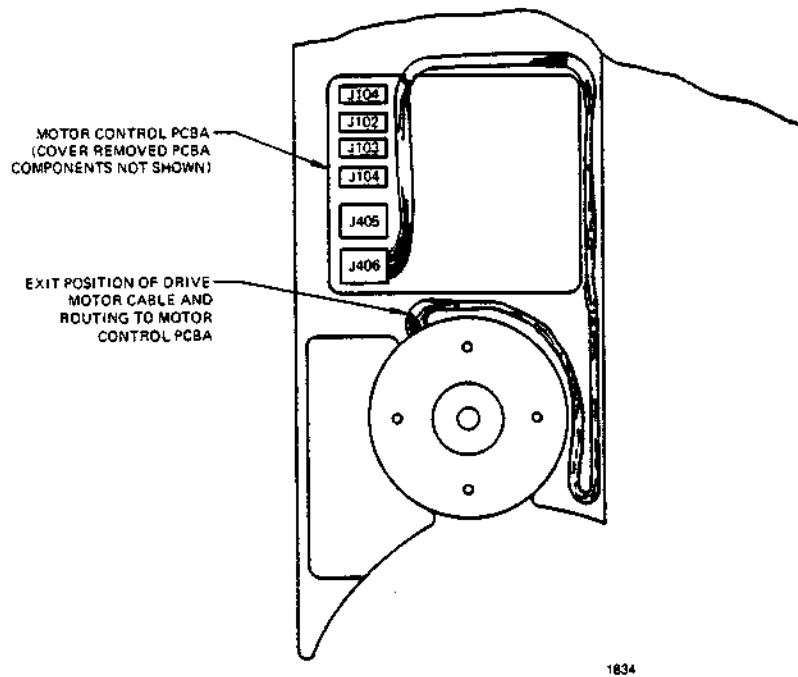
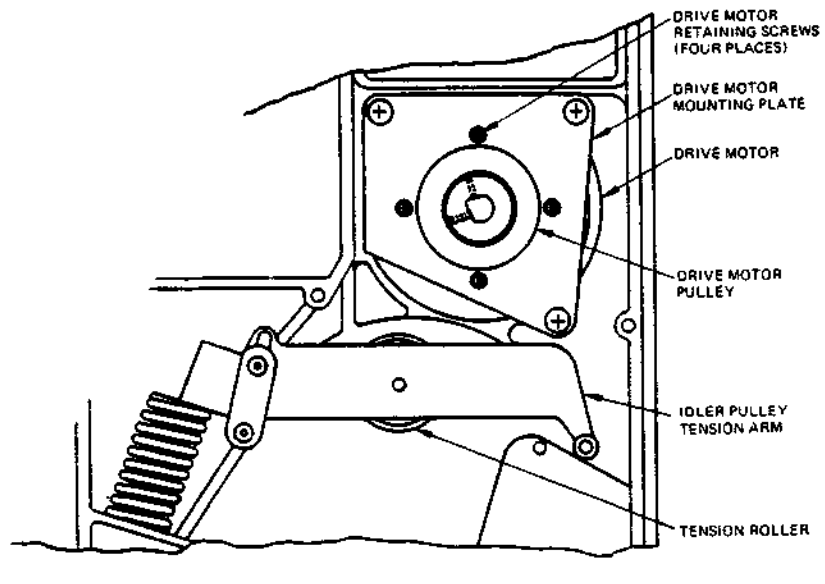

Figure 6-46. Drive Motor Cable Routing
Figure 6-47. Drive Motor Replacement
Refer to Figure 6-46
- (5) Disconnect connectors P405 and P406 from the Motor Control PCBA and separate out the cable to the drive motor.
- (6) Remove the belt guard; remove belt from motor pulley only (refer to Paragraph 6.19.1).
- (7) Remove the motor pulley from the motor shaft.
- (8) Use a thin-shank Phillips head screwdriver to remove four motor mounting screws from the motor mounting plate. Refer to Figure 6-47.
- (9) Remove the drive motor from the mounting plate and from the disk drive.
From the top side of the disk drive, proceed as follows. Refer to Figure 6-46.
- (1) Position the motor so the motor cable exists from the motor frame as shown in Figure 6-46.
- (2) From beneath the disk drive, install four motor mounting screws through the motor mounting plate. See Figure 6-47. Secure motor to plate.
- (3) Install the drive motor pulley on the motor shaft.
- (4) Replace belt as noted in Paragraph 6.19.2.
- (5) From the top side of the disk drive, route the motor cable as shown in Figure 6-46. Install connectors P405 and P406 to the Motor Control PCBA.